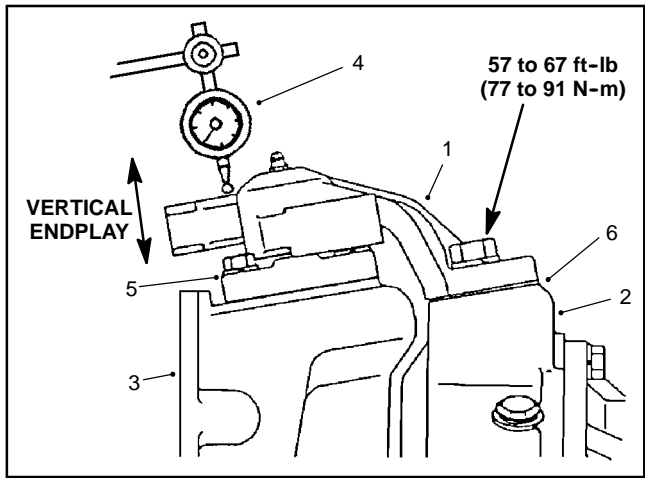

Figure 22
C. Use dial indicator to measure vertical endplay of axle case (Fig. 22).